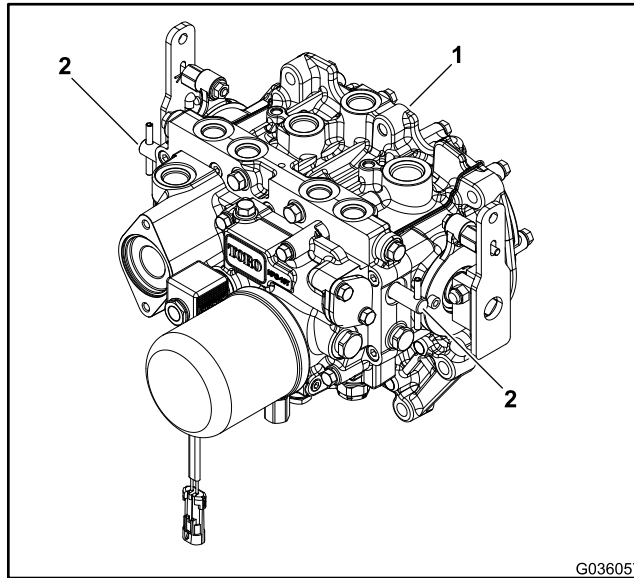

Figure 19
2. Find the 2 bypass valves on the transmission (Figure 19). Loosen the 2 valves (rotate them counterclockwise) 1 to 2 turns.